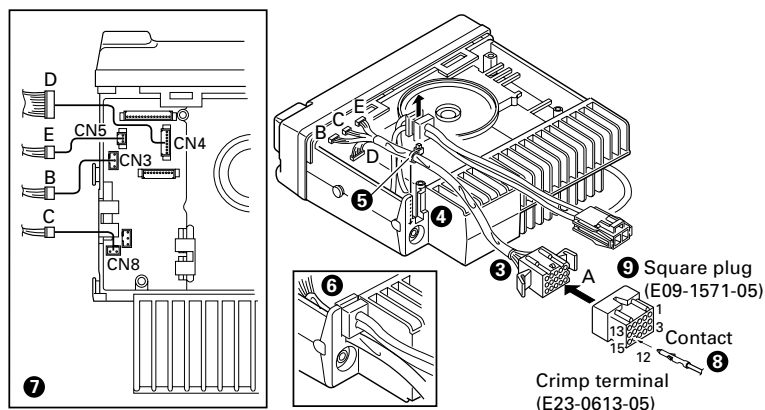

Fig. 2
4. Replace the DC cord bushing ( ❻ ).
5. Connect the KCT-19 to the TX-RX unit (A/2) as shown in Figure 2 ( ❼ ).
6. Connect the KCT-19 to the external accessory by inserting the crimp terminal ( ❽ ) into the square plug ( ❾ ), both of which are supplied with the KCT-19.